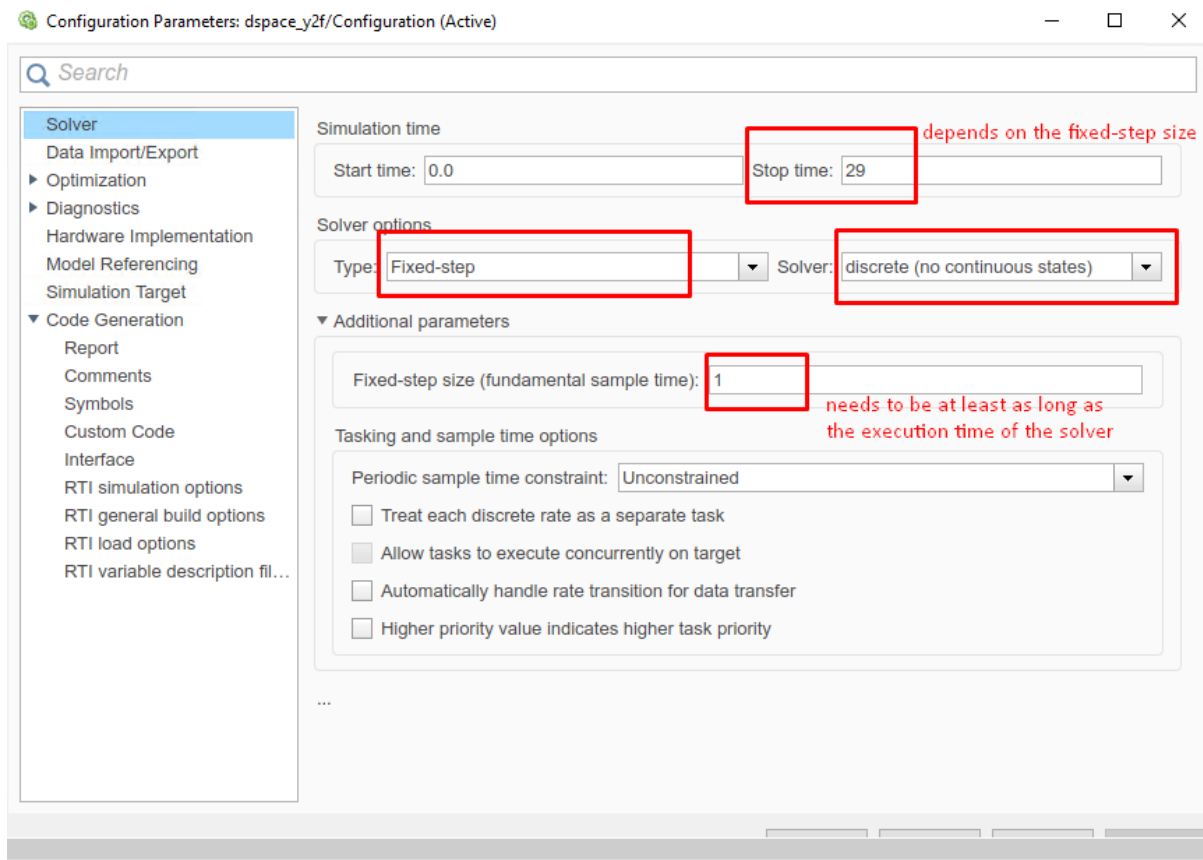

Figure 13.22: Set the Simulink solver options.
7. (Figure 13.22) In the “Solver” tab, set the options: